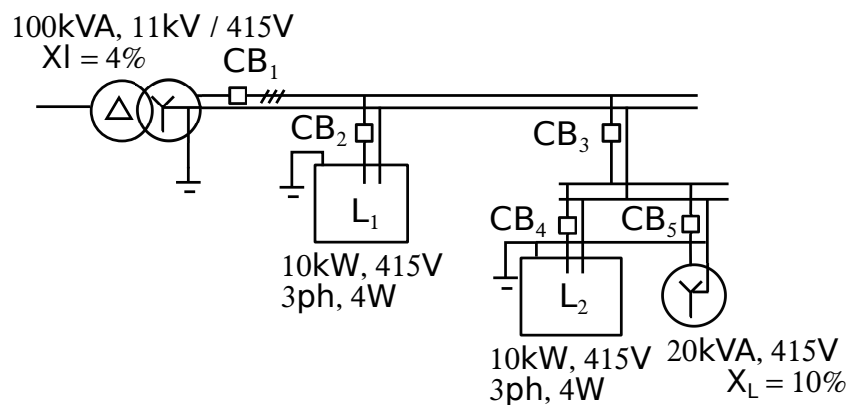
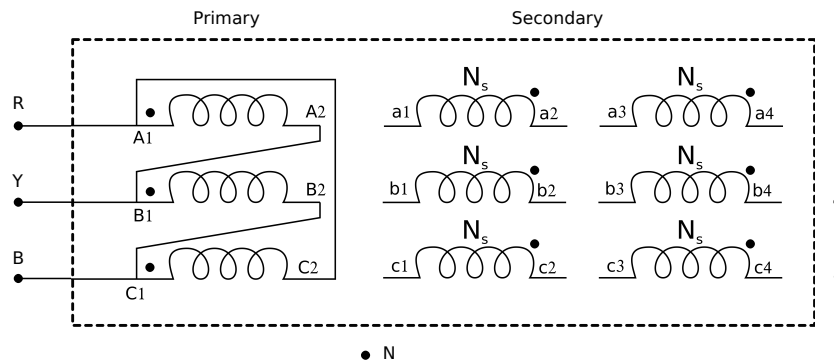

Figure 1: TT Secondary distribution network.
Figure 2: Delta zig-zag distribution transformer.
A TT secondary distribution network is shown in the Fig. 1. The 11kV/415V step down transformer is rated at 100kVA and has leakage reactance of 4%. Loads L_1 and L_2 are rated 10kW each and have independent grounding terminals. A 20kVA DG is connected at L_2 and its neutral is solidly connected to ground. The DG has a leakage reactance of 10%. All earthing electrodes have a ground resistance of 5Ω.
9. For the *Delta – Wye* step down transformer shown in Fig. 1, what are the currents in the three high voltage primary *Delta* windings, when there is an SLG fault with no DG on the secondary distribution network? (2 points)
10. The *Delta – Wye* transformer is replaced by a *Deltazig – zag* transformer as shown in Fig. 2. What is the minimum required turns for the secondary keeping the primary turns the same as in (8) above. Sketch the necessary winding connections required on the secondary side so that it can be used in place of the transformer in Fig. 1. (3 points)